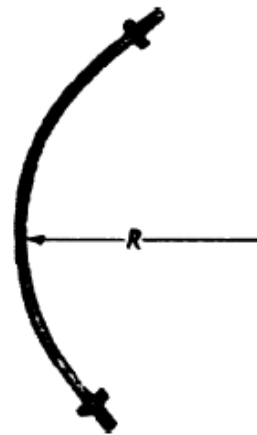

FIG. 1 PERMISSIBLE BENDING RADII
5.3 Minimum Permissible Bending Radii — The cable should not be bent to a sharp radius. Minimum recommended bending radii are given in Table 5 (see Fig 1). Wherever possible, larger bending radii should be used.